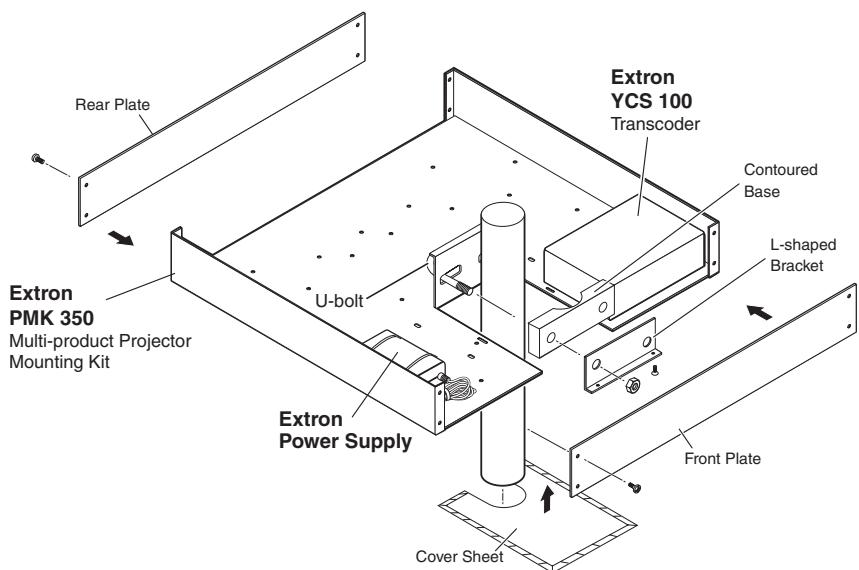

Figure 2-10 — Projector-mounting the YCS 100 using the PMK 350 Projector Mount Kit
5. Place the bracket around the projector ceiling mounting pole as shown in figure 2-10.